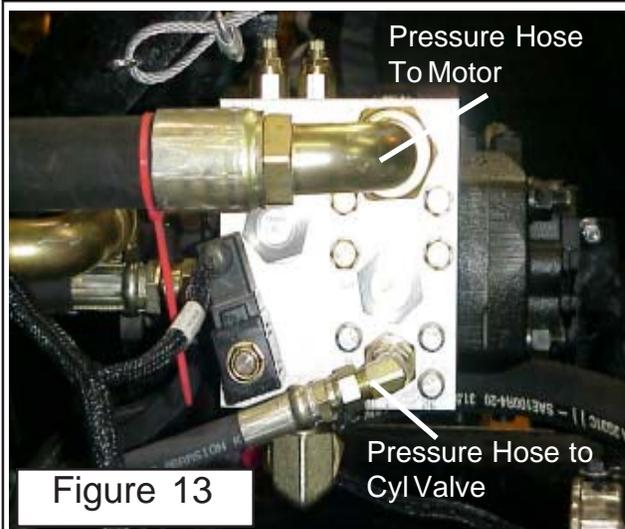

Figure 13
**B. The Pressure Hoses** run down the right side of the tractor and connect to the control valve block which is bolted to the pump on the right hand side (See Figure 13, 14 & 15). The small hose is the pressure to cylinder control valve, the larger hose is the pressure hose for the mower motor circuit. These hoses should be connected first. (See Figure 13). Bolt the hose rings to the right side of tractor.
The pump / motor control valve block, this bolts to the right hand side of the pump (See Figure 13, 14, 15 & 16). The pressure and return hoses are connected to this valve block.